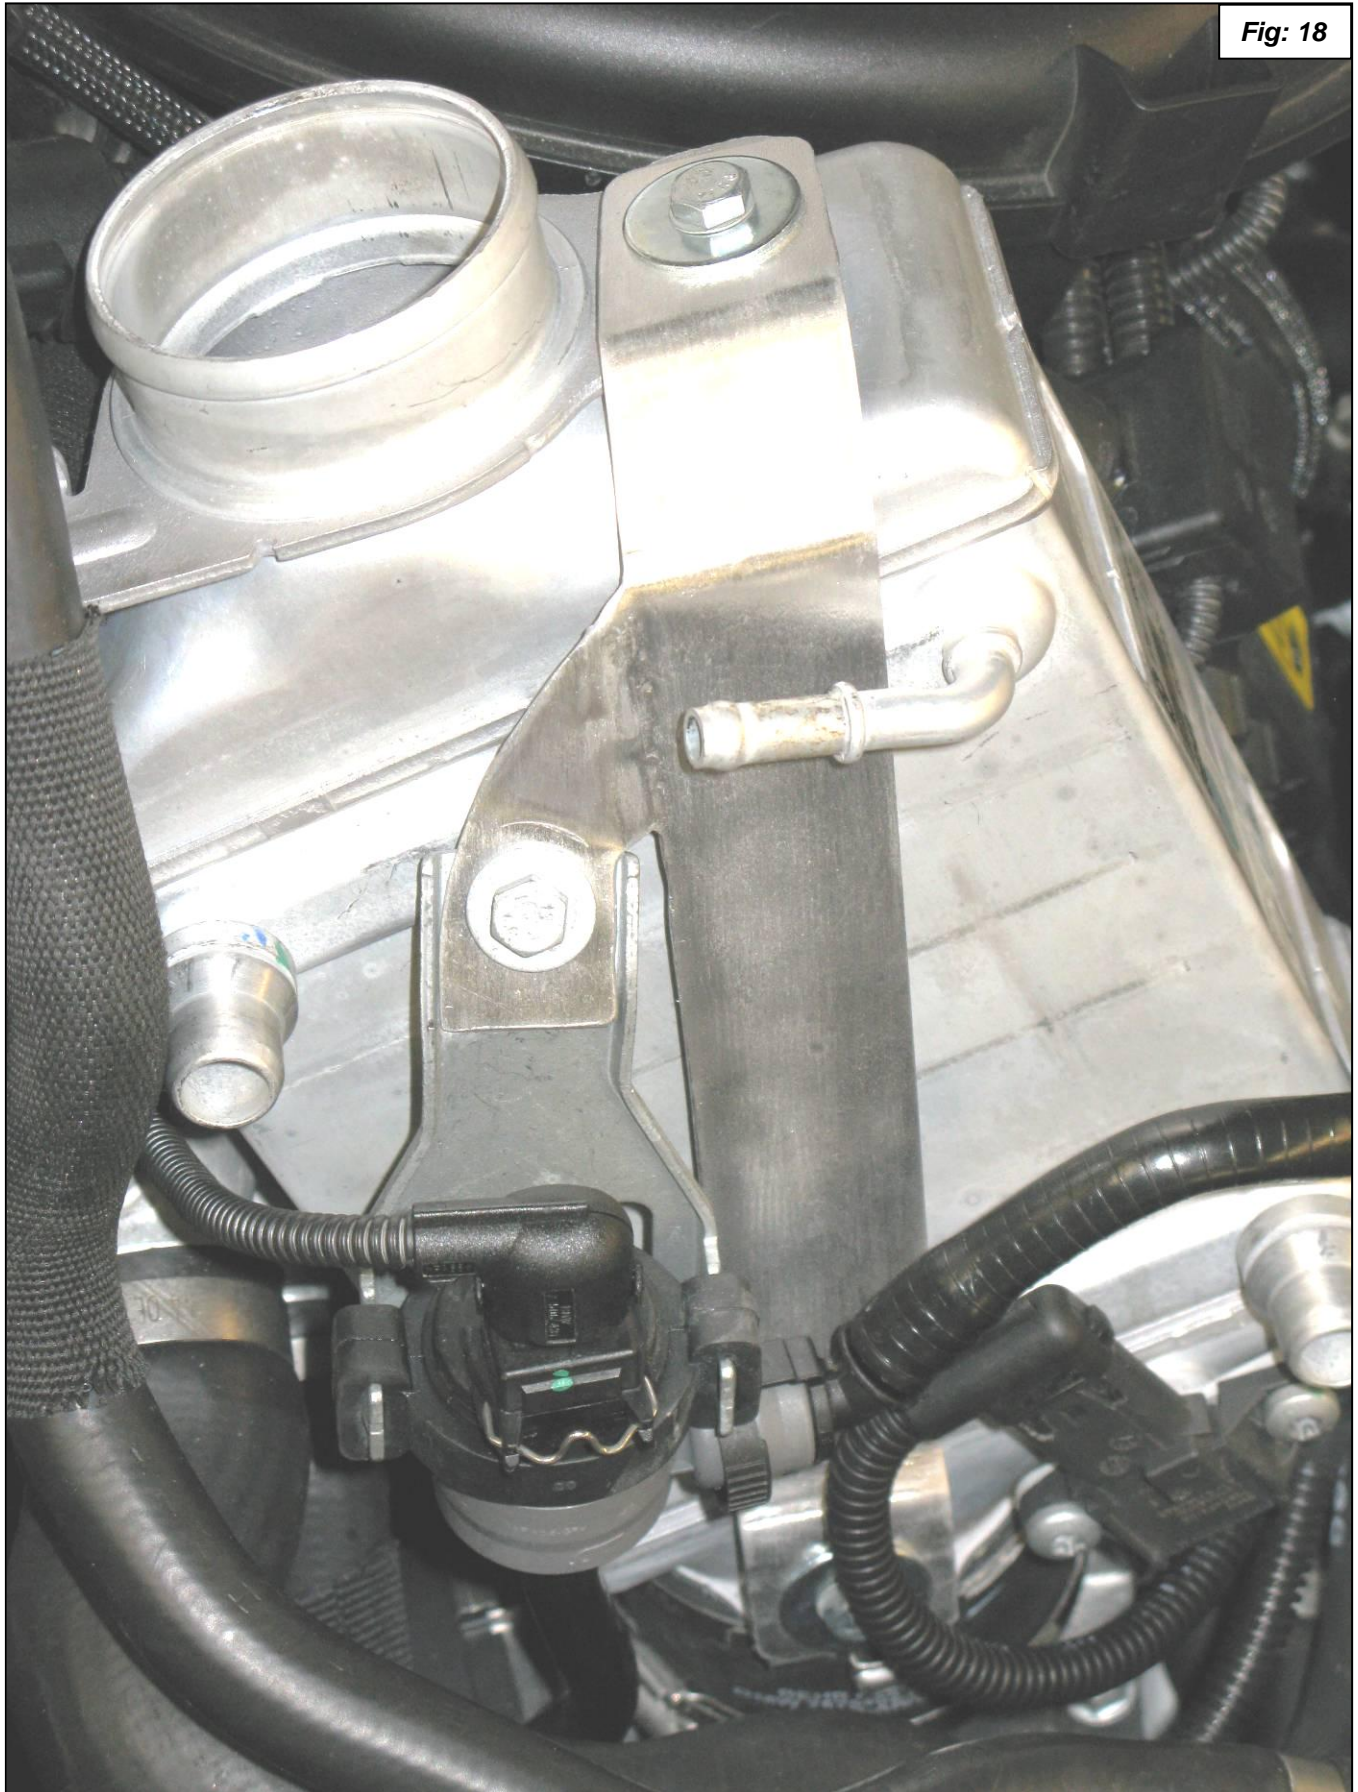

Fig: 18
15. Install the new vent valve bracket using the supplied 6mm bolts and washers. Install the vent valve on the bracket using the stock bolt. See figure 18.